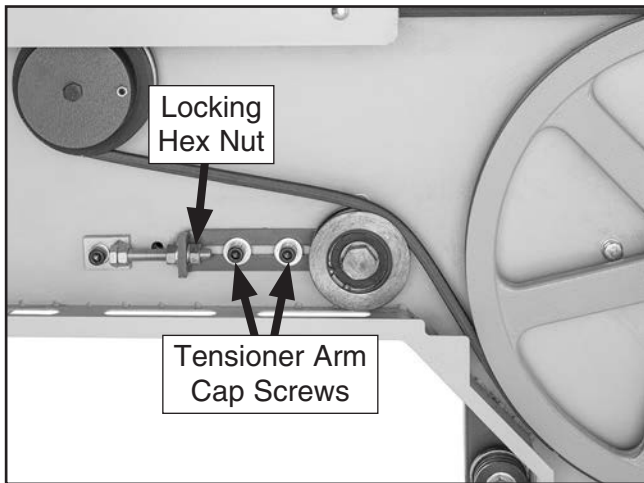

Figure 71. Tension securing fasteners.
- Loosen (2) tensioner arm cap screws and locking hex nut shown in **Figure 71**.